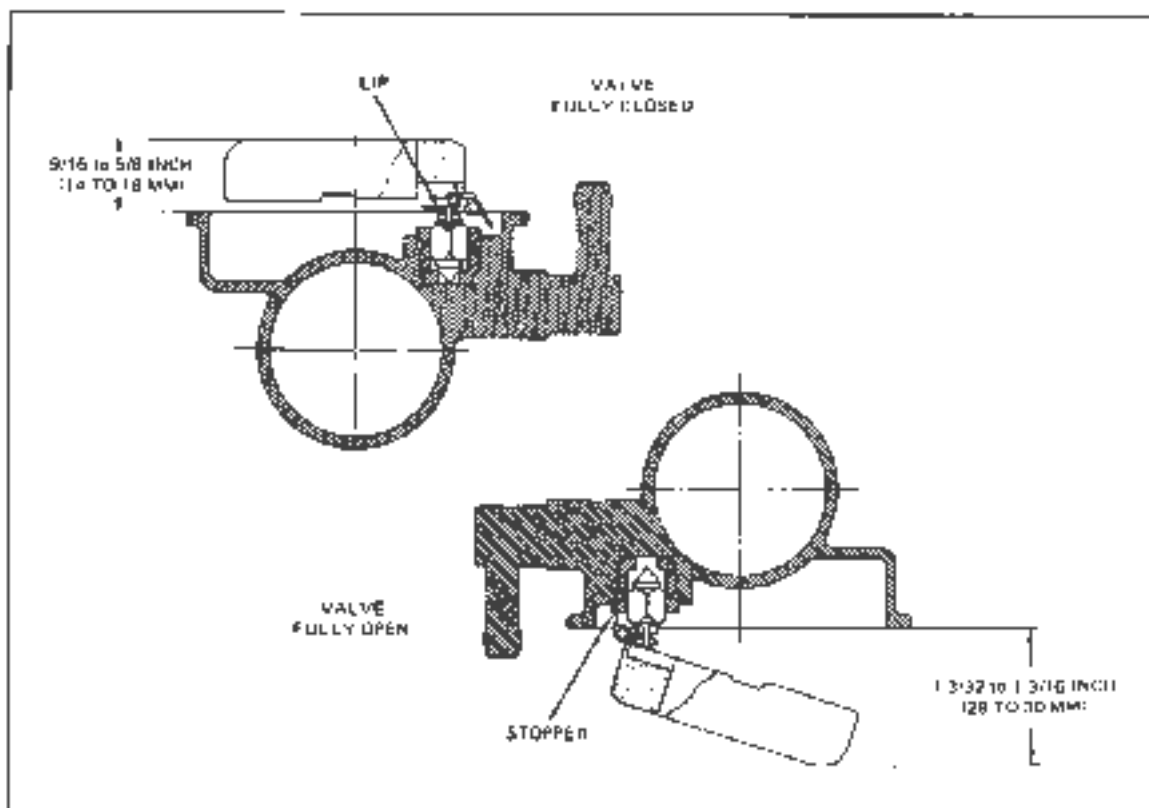

Figure 3-78. Carburetor Float Setting
Mount the carburetor on the motorcycle as follows. Check O-ring (20), Figure 3-78, on the mounting flange to see that it is okay and in its groove. Position carburetor on bike engine mounting studs and secure with nuts and washers.